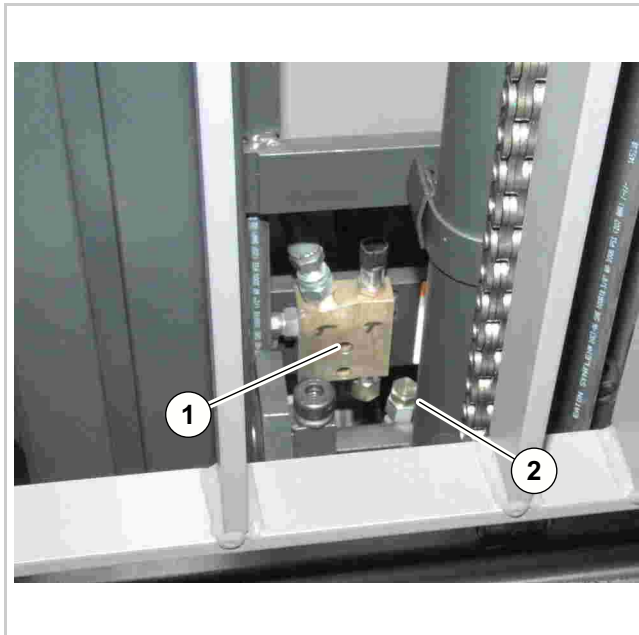

Fig. 11 (25415-01)
14. Disconnect and cap the lift and the lower hose. See Figure 11.